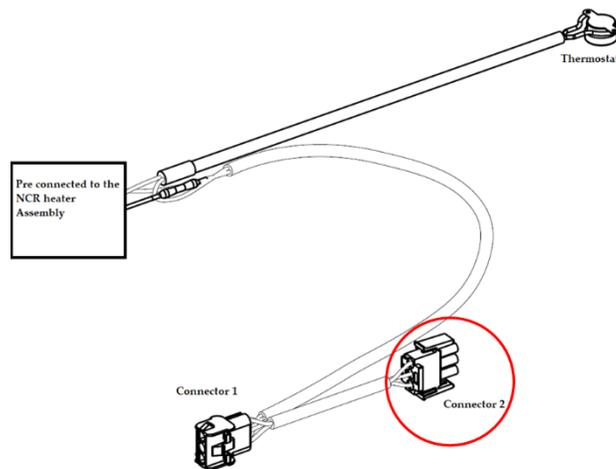
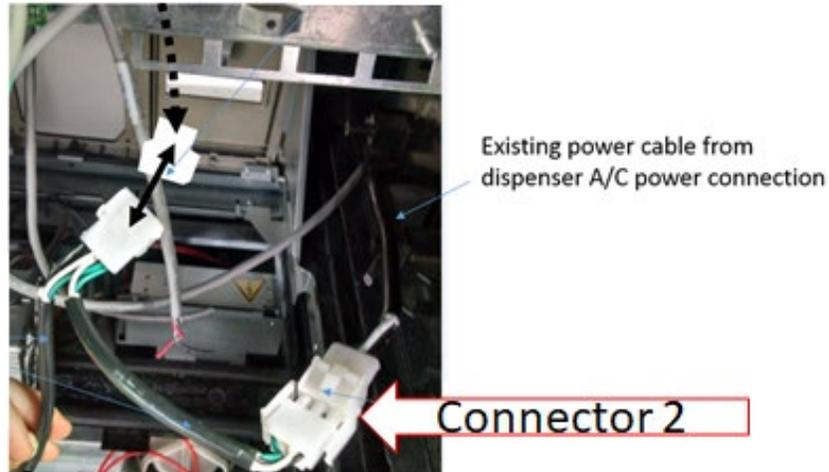

Figure 117
Figure 118
12) Affix Connector 2 (identified in Figure 117) to the existing dispenser A/C power cable as shown in Figure 118.